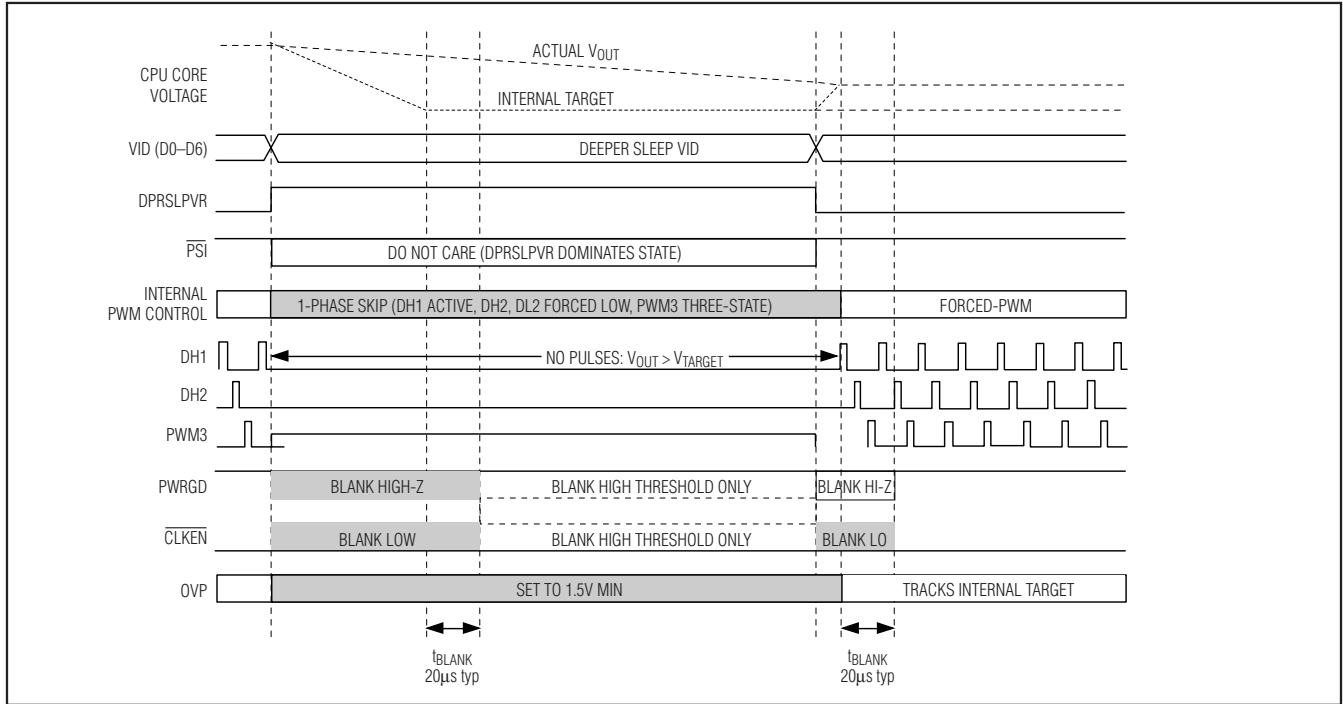

Figure 5. C4E (C4 Early Exit) Transition
When DPRSLPVR goes high, the MAX17030/MAX17036 immediately disable phases 2 and 3 (DH2, DL2 forced low, PWM3 three-state,  $\overline{\text{DRSKP}}$  low), and enter pulse-skipping operation (see Figures 5 and 6). If the VIDs are set to a lower voltage setting, the output drops at a rate determined by the load and the output capacitance. The internal target still ramps as before, and PWRGD remains blanked high impedance until 20 $\mu\text{s}$  after the output voltage reaches the internal target. Once this time expires, PWRGD monitors only the lower threshold:
- **Fast C4E Deeper Sleep Exit:** When exiting deeper sleep (DPRSLPVR pulled low) while the output voltage still exceeds the deeper sleep voltage, the MAX17030/MAX17036 quickly slew (50mV/ $\mu\text{s}$  min regardless of  $R_{\text{TIME}}$  setting) the internal target voltage to the DAC code provided by the processor as long as the output voltage is above the new target. The controller remains in skip mode until the output voltage equals the internal target. Once the internal target reaches the output voltage, phase 2 is enabled. The controller blanks PWRGD and  $\overline{\text{CLKEN}}$  (forced high impedance) until 20 $\mu\text{s}$  after the transition is completed. See Figure 5.